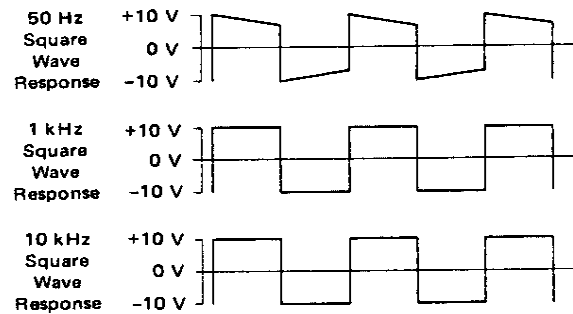

FIGURE 5 – Square Wave Response
**Square Wave Response:** (See Figure 5)